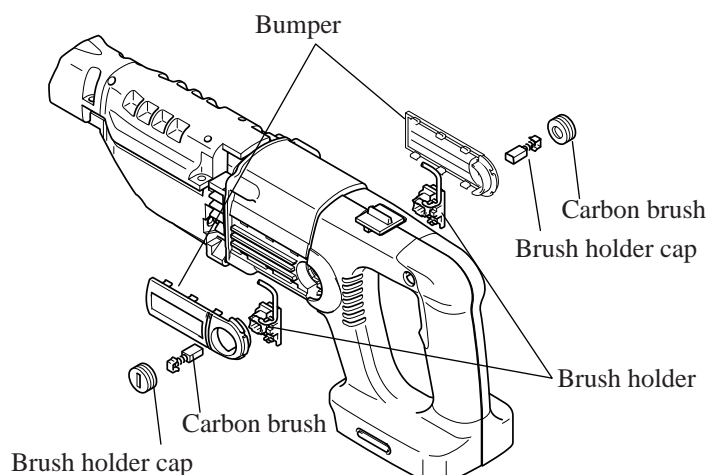

Fig. 22
2. Remove bumper, carbon brush and brush holder cap from motor housing. Then, brush holder can be removed. See Fig. 22.